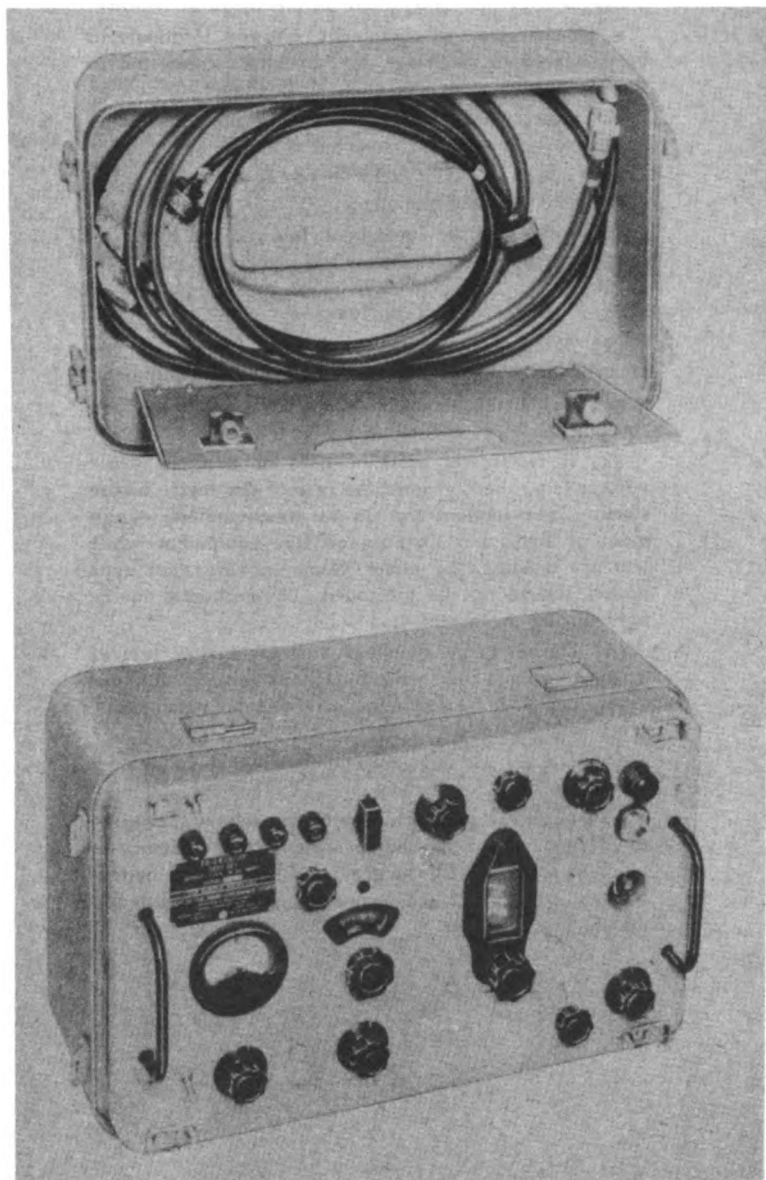

Figure 1-1. TS-147B/UP Radar Test Set—Complete Equipment
b. The Test Set (figure 1-1) is a portable microwave signal generator designed for testing and adjusting radar systems and beacon equipment operating within the frequency range from 8500 to 9600 megacycles per second (mc).